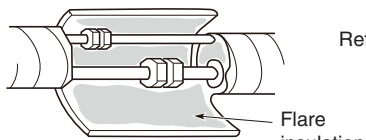
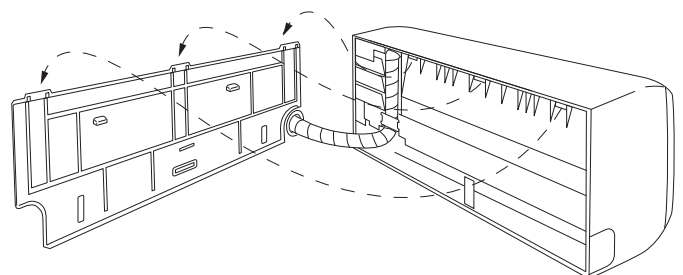

Fig. 3-96
Fig. 3-95
- (2) Push the wiring, refrigerant tubing, and drain hose through the hole in the wall. Adjust the indoor unit so it is securely seated on the rear panel. (Fig. 3-95)
- (3) Carefully bend the tubing (if necessary) to run along the wall in the direction of the outdoor unit and then tape as far as the fittings. The drain hose should come straight down the wall to a point where water runoff won't stain the wall.
- (4) Connect the refrigerant tubing to the outdoor unit. (After performing a leak test on the connecting part, insulate with the tubing insulation. (Fig. 3-96)).